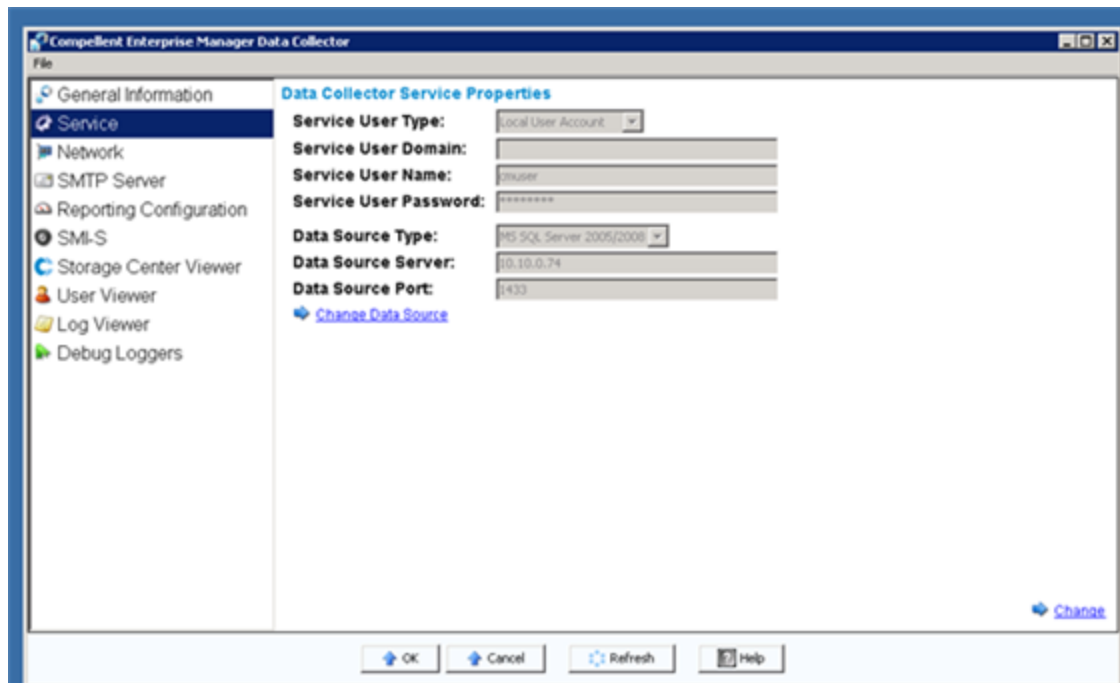

Figure 8: Specifying the Data Collector Service Properties
11. Once you have created the Compellent Enterprise Manager User, you will be required to provide the necessary **Data Collector Service Properties** by following the menu sequence: *Start -> All Programs -> Compellent Technologies -> Compellent Enterprise Manager -> Compellent Enterprise Data Collection Manager -> Service*. Figure 8 will then appear.
12. Clicking the **Change** link in Figure 8 will enable you to edit the properties of the **Data Collector Service**. Now, choose **Local User Account** from the **Service User Type** drop down list.
1. Clicking the **Change** link in Figure 8 will enable you to edit the properties of the **Data Collector Service**. Now, set the **Service User Type** to **Local Service Account**.